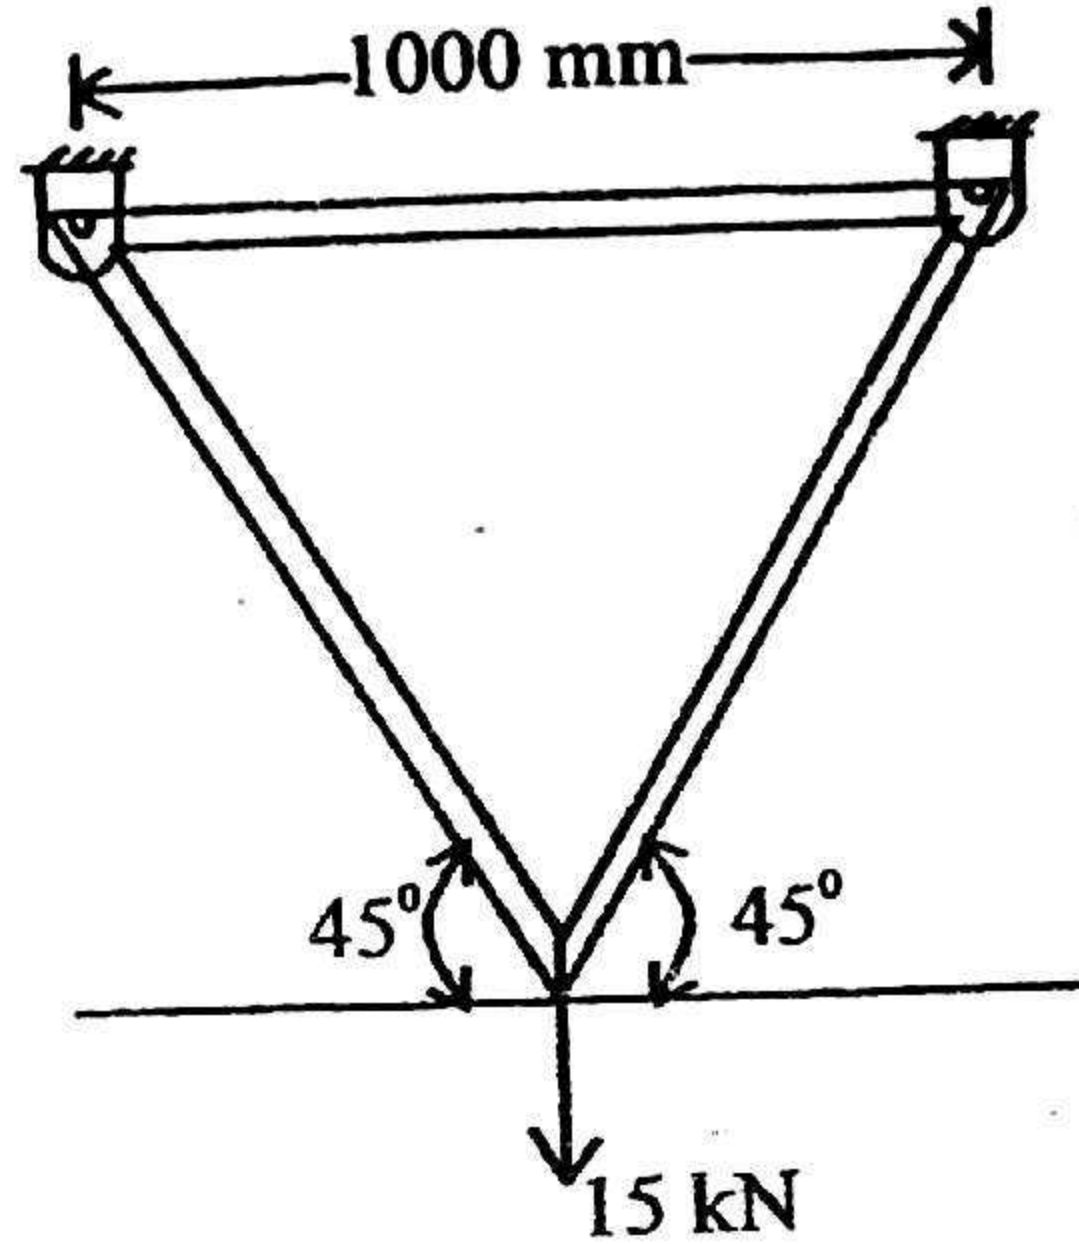

Fig. 7
7. Fig. 7 shows truss, subjected to a load of 15 kN. Determine: